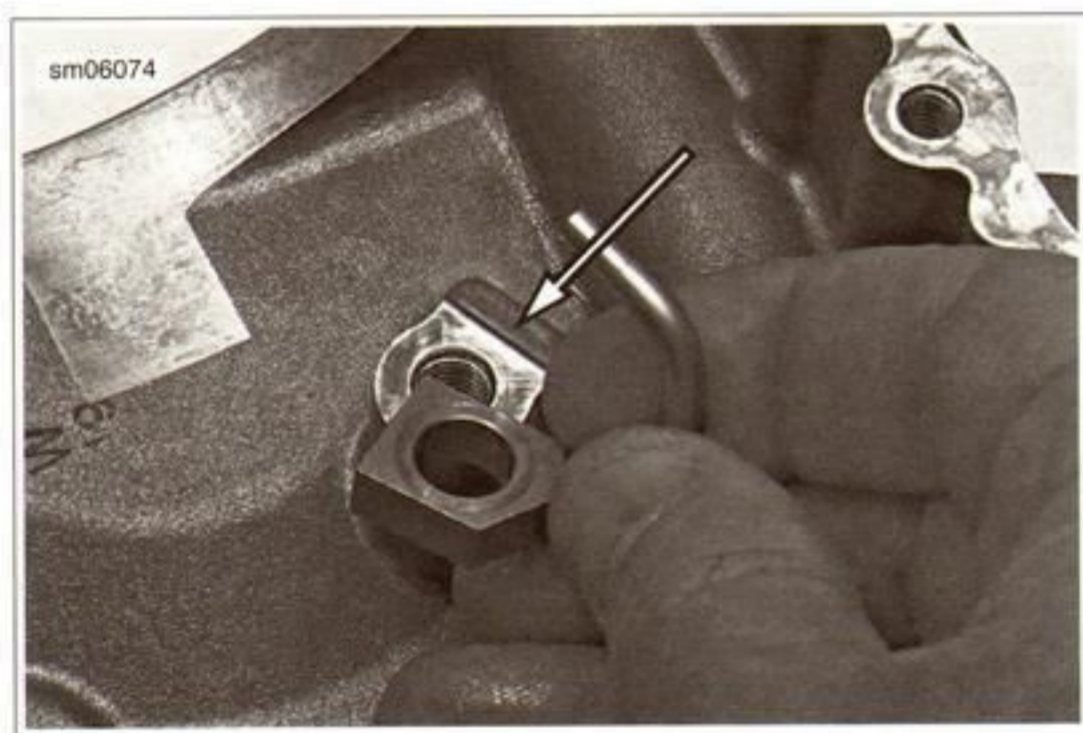

Figure 3-177. Oil Nozzle Mount Shoulder
1. See Figure 3-177. Fit the oil nozzles to the shoulder on the case mounts.